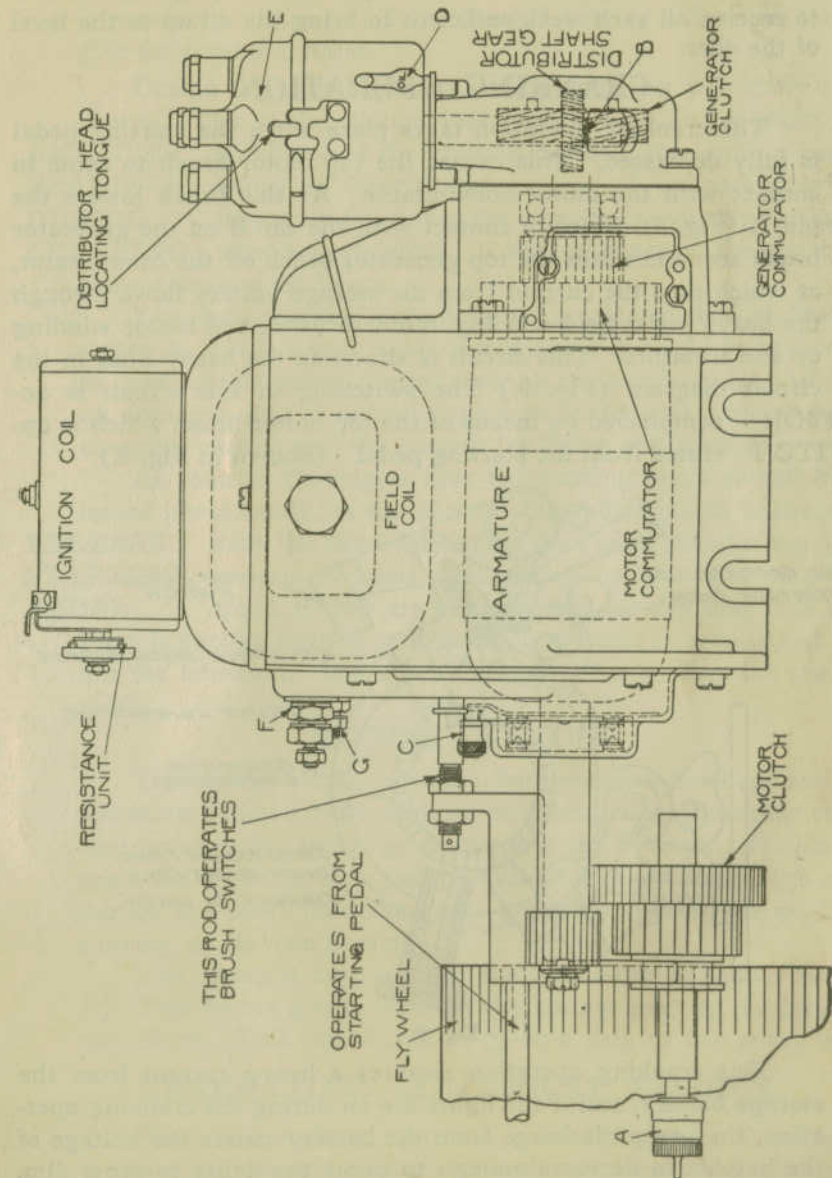

Fig. 1
A clicking sound will be heard during the motoring of the generator. This is caused by the over-running of the clutch in the forward end of the generator which is shown in (Fig. 1.)
LUBRICATION lubrication from the oil that is contained in the front end of the generator which is put in at B (Fig. 1.) This is to receive oil each week sufficient to bring the oil up to the level of the oiler.
This clutch is lubricated by the grease cup A, shown in (Fig. 1.) This forces grease through the hollow shaft to the inside of the clutch. This cup should be given a turn or two every week.
- No. 2—Oiler for lubricating the generator clutch and forward armature bearing. (B, Fig. 1.)
- No. 4—The oil hole in the distributor, at D (Fig. 1) for lubricating the top bearing of the distributor shaft. This should receive oil once a week.
This is mounted on top of the motor generator as shown in (Fig. 1) and is what is generally known as the ignition transformer coil. In addition to being a plain transformer coil it has incorporated in it a condenser (which is necessary for all high tension ignition systems) and has included on the rear end an ignition resistance unit.